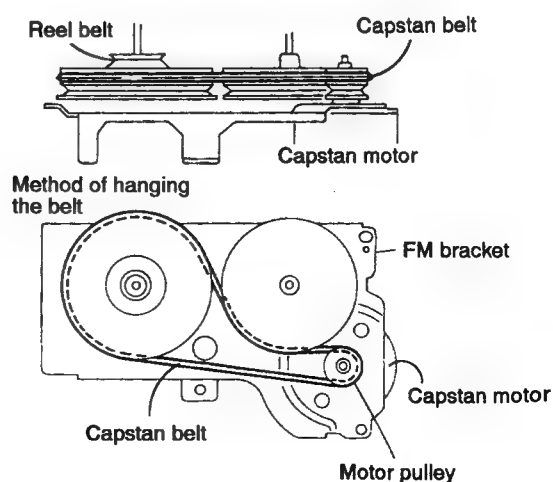

Fig. 5-44
5. Hang the capstan belt (See Fig. 5-44).
6. Hang the reel belt on the hook as shown in Fig. 5-44.
8. After making sure that the reel belt is not twisted, remove the belt from the stud and hang this belt onto the flywheel (See Fig. 5-44).